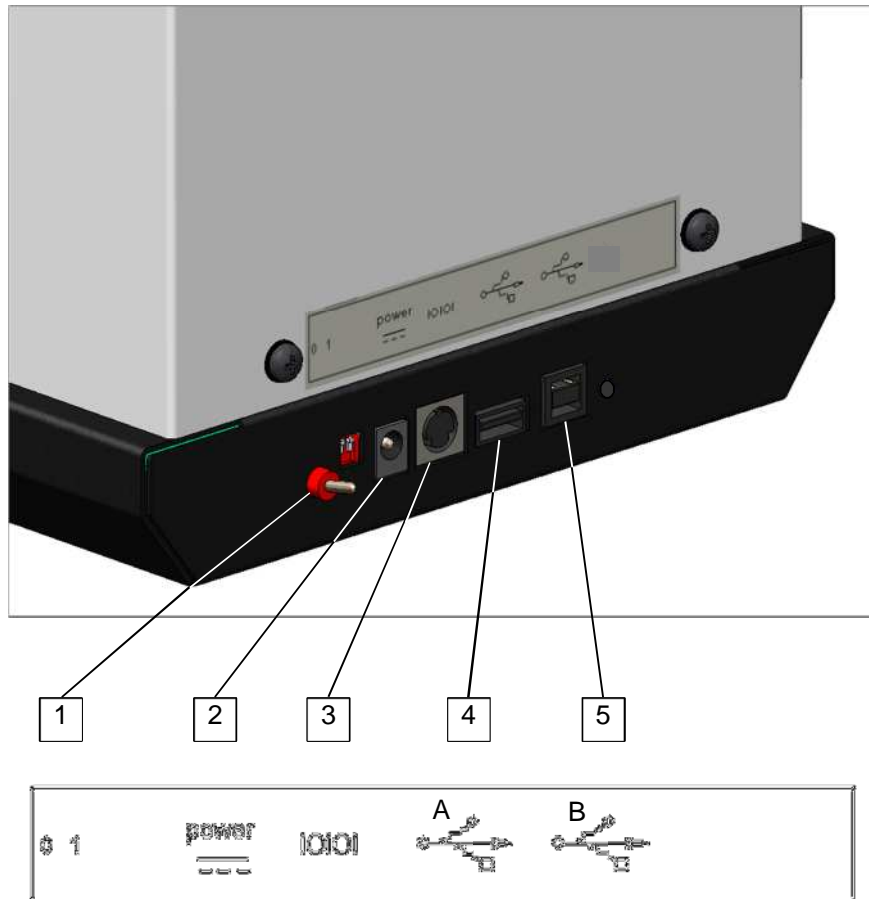

Figure 5.2 Rear Panel and Label detail
6. Position the M926 so that there is clear access to the on/off switch (Item 1, Figure 5.2, page 12).
1. A Serial Cable (926 09 051) is provided if you wish to use an external device. The small, round end of the cable fits into the socket on the rear of the M926 (Figure 5.2, Item 3) and the other end into the serial input socket of the external device - a printer or a computer serial interface.
The M926 also has USB B port that enables results to be sent to computers that do not have an RS232 serial comms. port. A USB cable (001 09 006) is provided. The squarer end fits into the socket on the rear of the M926 (Item 5, Figure 5.2, page 12). On the PC in Device Manager under Ports (COM & LPT) the M926 will typically appear as - *926 Series Chloride Analyser (COM7)*.